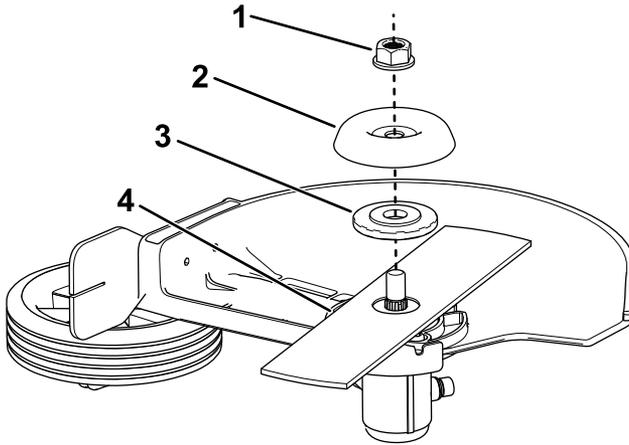

Figure 11
4. Remove the blade washer, blade washer cover, and the old blade from the edger shaft (Figure 11).
5. Install the new blade and secure it with the previously removed blade washer, blade washer cover, and blade nut (Figure 11).